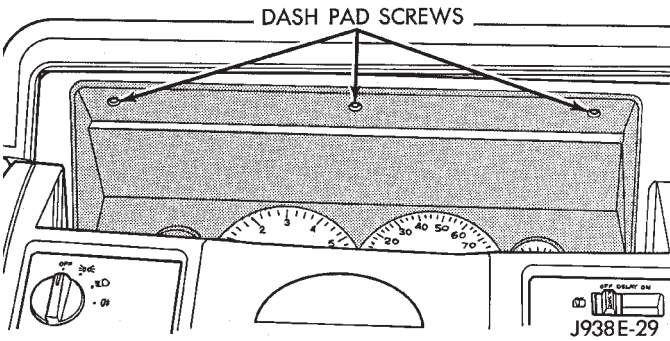

Fig. 10 Remove Screws Holding Dash Pad
- (9) Remove 3 screws above Instrument Panel cluster holding dash pad (Fig. 10).
- (10) Open glove box and remove 2 screws holding dash pad.